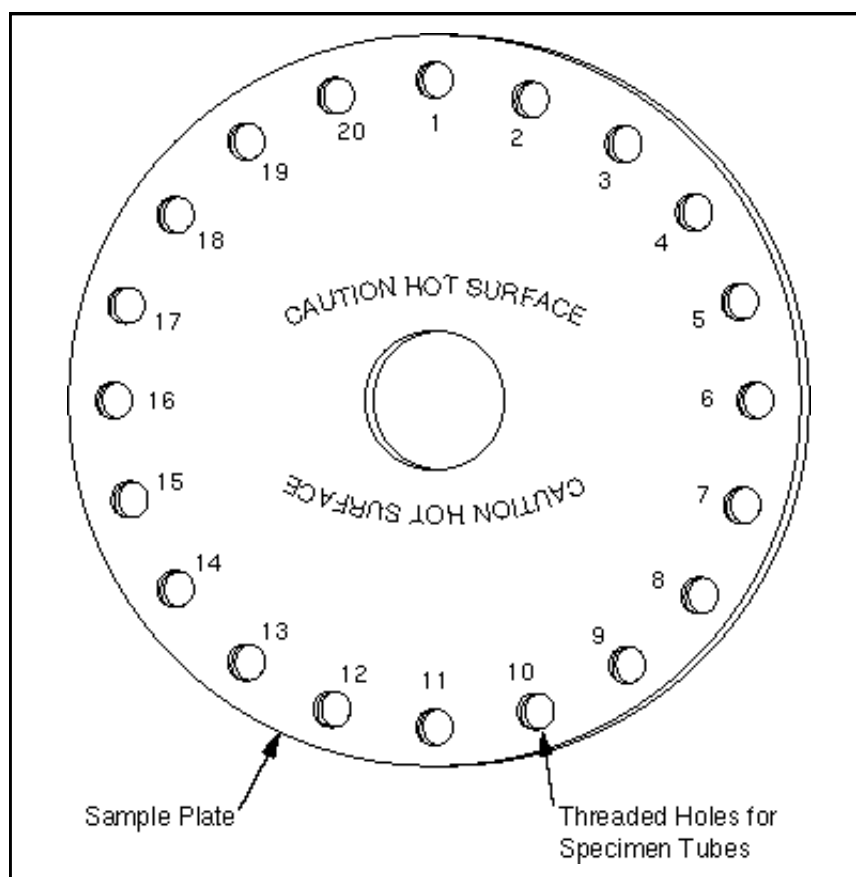

Figure 3: LCx Lysor Sample Plate
The sample plate (see Figure 3) contains threaded holes that are designed to anchor the specimen tubes during LCx Lysor operation. The power supply is designed to deliver the same amount of energy to each specimen tube.
3. Load the sample plate with specimen tubes according to **Table 1**: Tube Placement Guide. The sample plate is numbered to assist in symmetrical loading (see **Figure 3**). The specimen tubes are anchored into the threaded holes of the sample plate by pushing down on the tubes while turning them **CLOCKWISE** one-quarter to one full turn.
Table 1: Tube Placement Guide. Positions are marked on the sample plate shown in **Figure 3**.